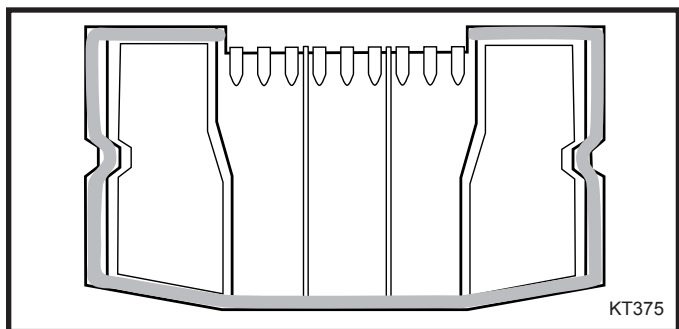

Fig. 4 Fiberglass gasket on back of lower fireback.
9. Check the tube of gasket cement. This is a clay-based, water-solvent material, and the water can separate from the clay during storage. Before you open the tube, knead it in your hands to ensure the cement and the water are thoroughly mixed. Cut off the tip of the tube. Apply a thin bead of gasket cement to the back of the new lower fireback, in the channel shown in Figure 4. Twist the ends of the fiberglass gasket, to keep it from unraveling. Press the gasket into the channel. Do not cut the gasket to final length until you have positioned it in the cemented channel.